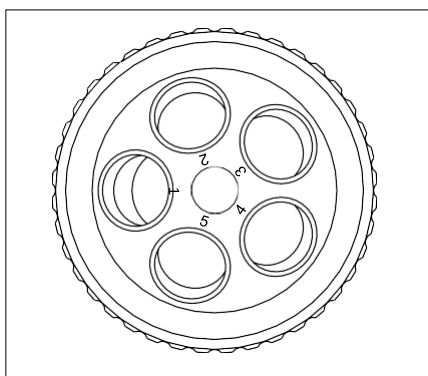

Fig.6
2. When installing the objectives, install the 4X, 10X, 20X, 40X, 100X objective matching with the nosepiece hole 1, 2, 3, 4, 5 (see Fig. 6).